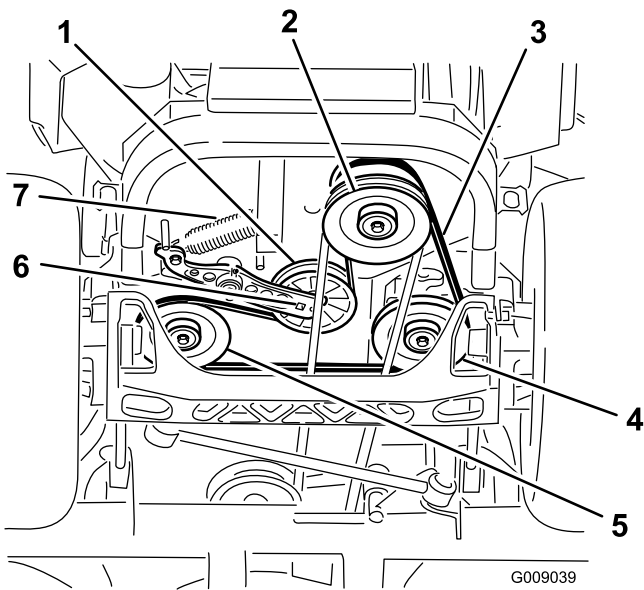

Figure 72
4. Raise the machine and support it with jack stands (Figure 72).
5. Use a ratchet in the square hole in the idler arm to remove the idler spring (Figure 72).
6. Unhook the idler spring from the frame (Figure 72).
9. Using a ratchet in the square hole in the idler arm, install the idler spring to the frame (Figure 72).